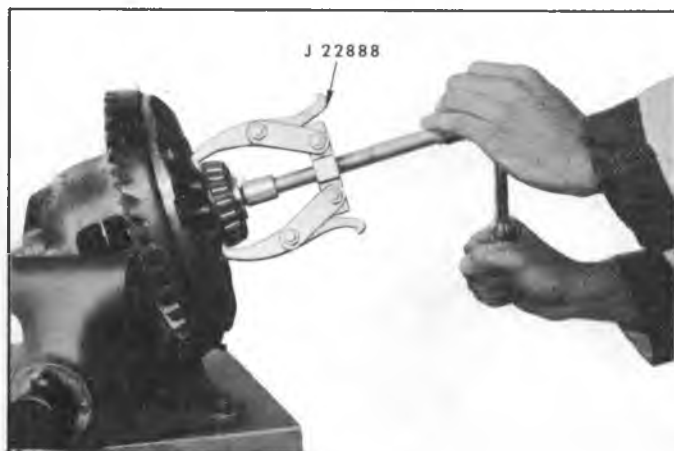

Fig. 3C--Removing Differential Bearing
1. Place Puller J-22888 over differential bearing using Adapter Plug J-8107-4 in side gear bore. Tighten puller screw to remove bearing as in Figure 3C.